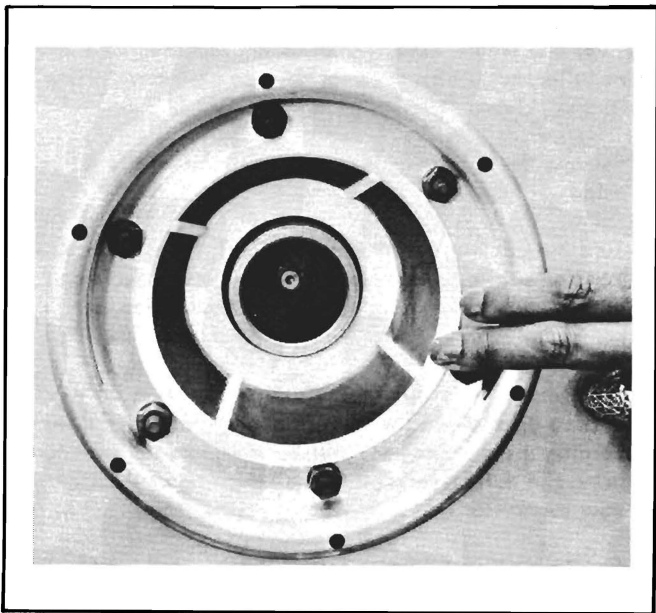
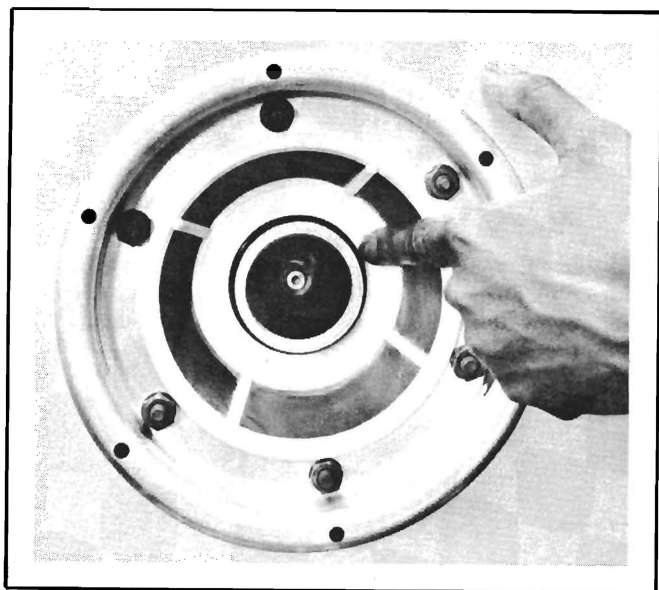

Figure 29. Disk Pack Filter
Figure 30. Location of "O" Ring on Filter
Disk packs are fitted with an air filter made of mesh nylon in a plastic frame (see Figure 29). The filter is located in the base of the hub and is secured in place by an "O" ring (see Figure 30). In normal use, a filter must be replaced monthly to maintain a clean disk pack. More frequent replacement may be necessary, depending upon the number of operating hours and the environment.
1. Remove the bottom canister cover and set it aside. For location of a filter, see Figure 29.